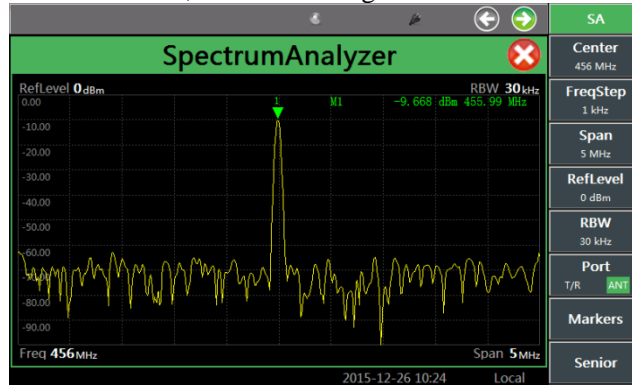

Fig. 4-11 Spectrum Analyzer Display Window
- **Window opening:** open the spectrum analyzer window by pressing the [Measurement] hard key and setting the instrument menu. Press the [Full Screen] hard key in the lower part of the screen to maximize the window, as shown in Fig. 4-11.
- **Menu calling:** click the touch screen, select the spectrum analyzer as the current active window, and the corresponding menu will be displayed in the right side of the window, as shown in Fig. 4-11. Measurement setting: